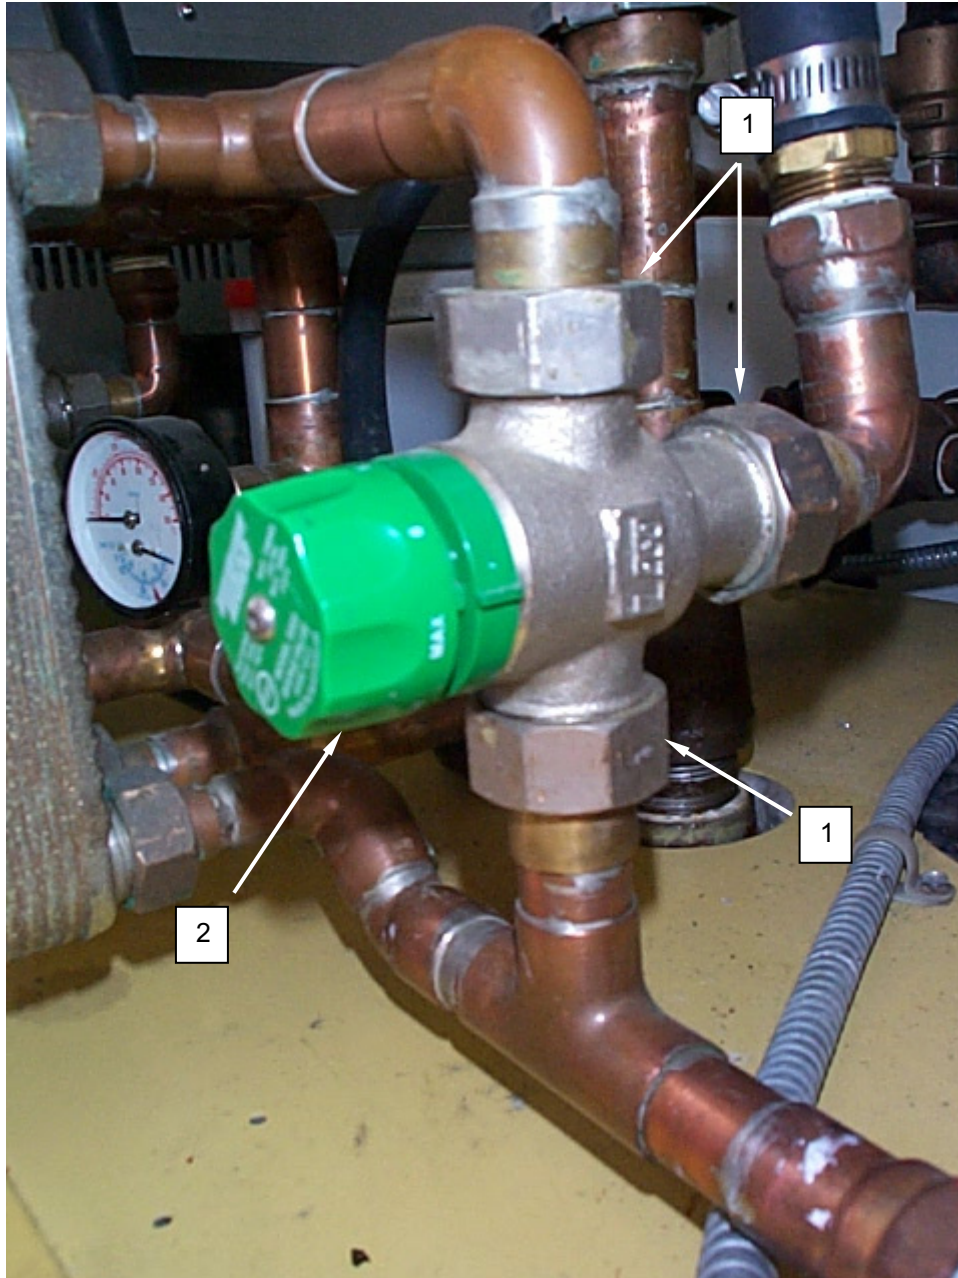

Figure 1. Replace a Mixing Valve.
4. Unscrew unions (**Figure 1, Item 1**) and remove mixing valve (**Figure 1, Item 2**).
5. Install the replacement mixing valve (**Figure 1, Item 2**) and secure with unions (**Figure 1, Item 1**).